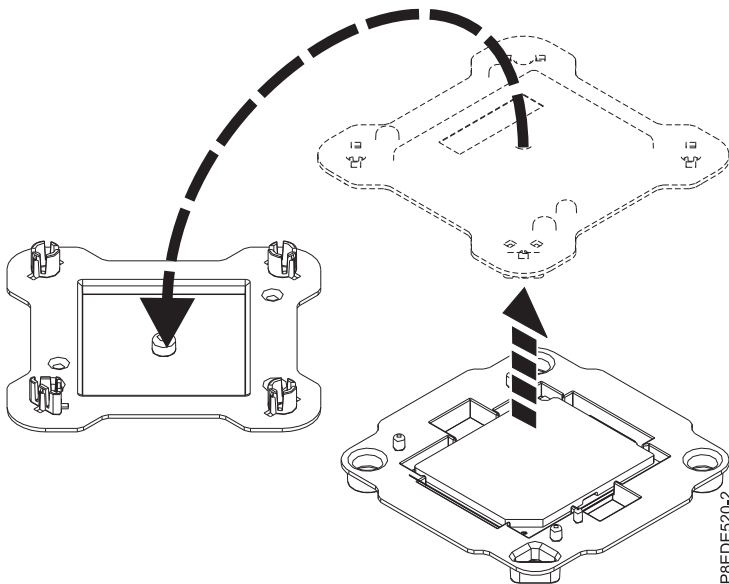

Figure 2. Opening the system processor module packaging
2. Open the packaging of the new system processor module, and place the cover upside down next to the tray, as shown in Figure 2. The cover is used for the system processor module that you are replacing.